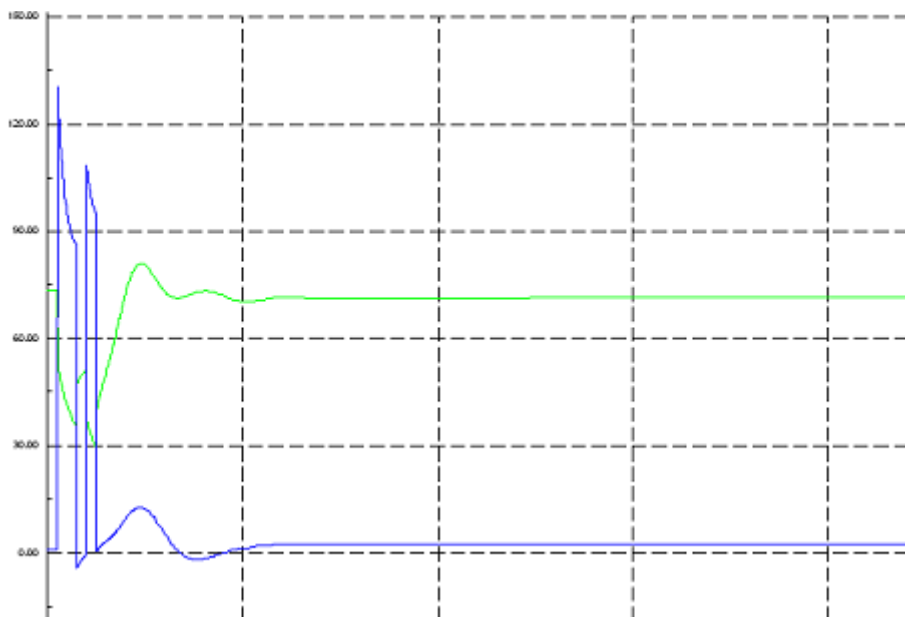

Fig. I.6: Virtual Instrument subplot displaying two variables
- ▶ Following the instructions given in section I.4.2 define the new curve to display the reactive power of generator "PP1_G2" ("s:Q1"). Your subplot should look now like Figure I.6 (for the first 10 seconds).